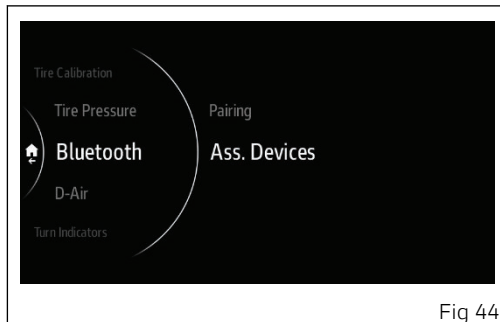

Fig 44
- Select "Associated Devices" (Fig 44) and press the joystick in the middle or in the RH ► position.